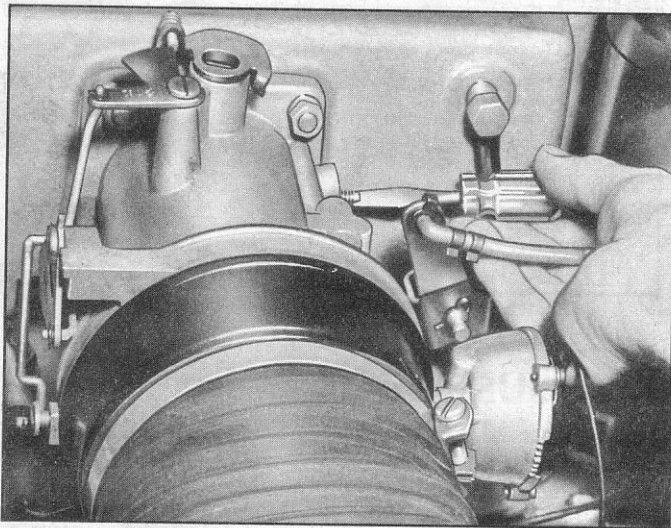

Fig. 21—Adjusting Idle Fuel Screw
3. Now adjust the idle fuel screw (fig. 21) to obtain the best engine idle characteristics. The idle speed screw may have to be turned inward slightly to reduce the engine speed to the desired 800 to 850 rpm.